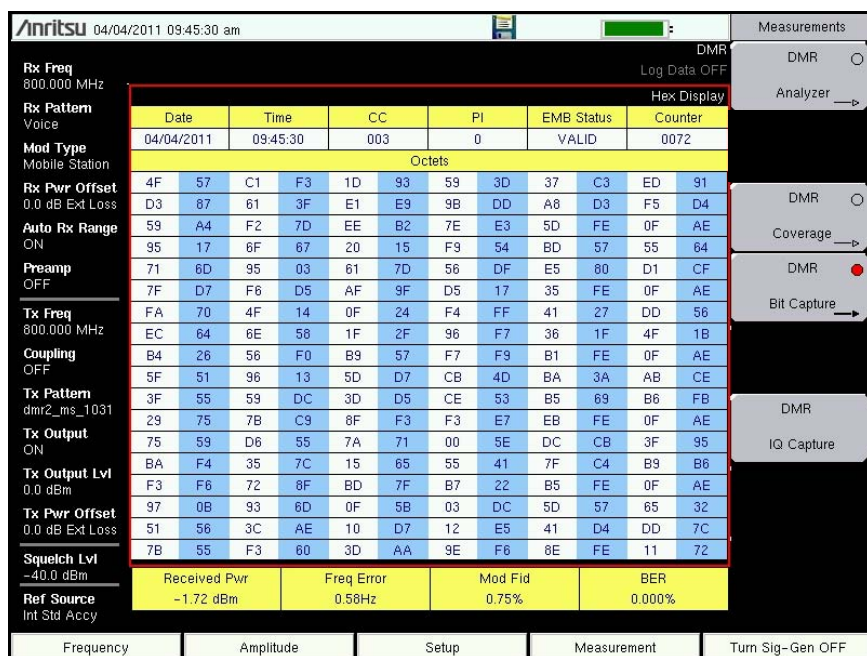

Figure 8-9. DMR Bit Capture Display
4. To log data, insert a formatted USB flash drive in the LMR Master and set Log Data to On. The bit capture information will be written to a data stamped folder inside the /usr folder on the root level of the USB flash drive. The tab delimited text file contains the header and table information shown in Figure 8-9. The files are named: